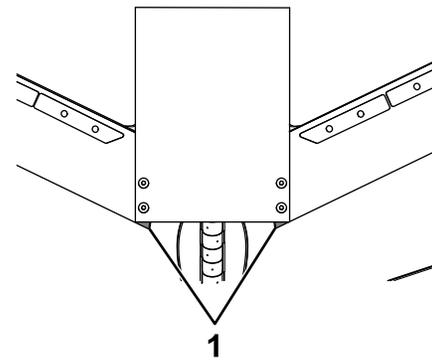

**Figure 7**
8. Drill a 9.5 mm (3/8 inch) hole through the belting, and secure the 2 sections together using a bolt (1/4 inch), 2 fender washers, and a nylon locknut (1/4 inch) as shown in Figure 7.
10. Secure the 2 sections together using a bolt (1/4 inch), 2 fender washers, and a nylon locknut (1/4 inch) as shown in Figure 7.